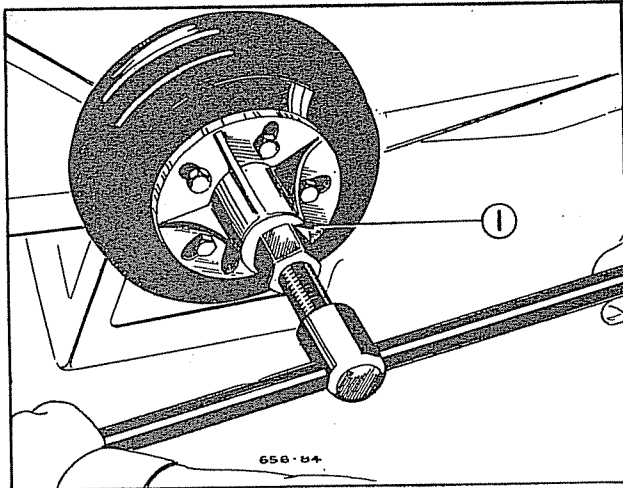

Fig. 3—Removing Rear Hub—Tool C-675.
(1) Remove wheel, hub and drum assembly as shown in Figure 3.